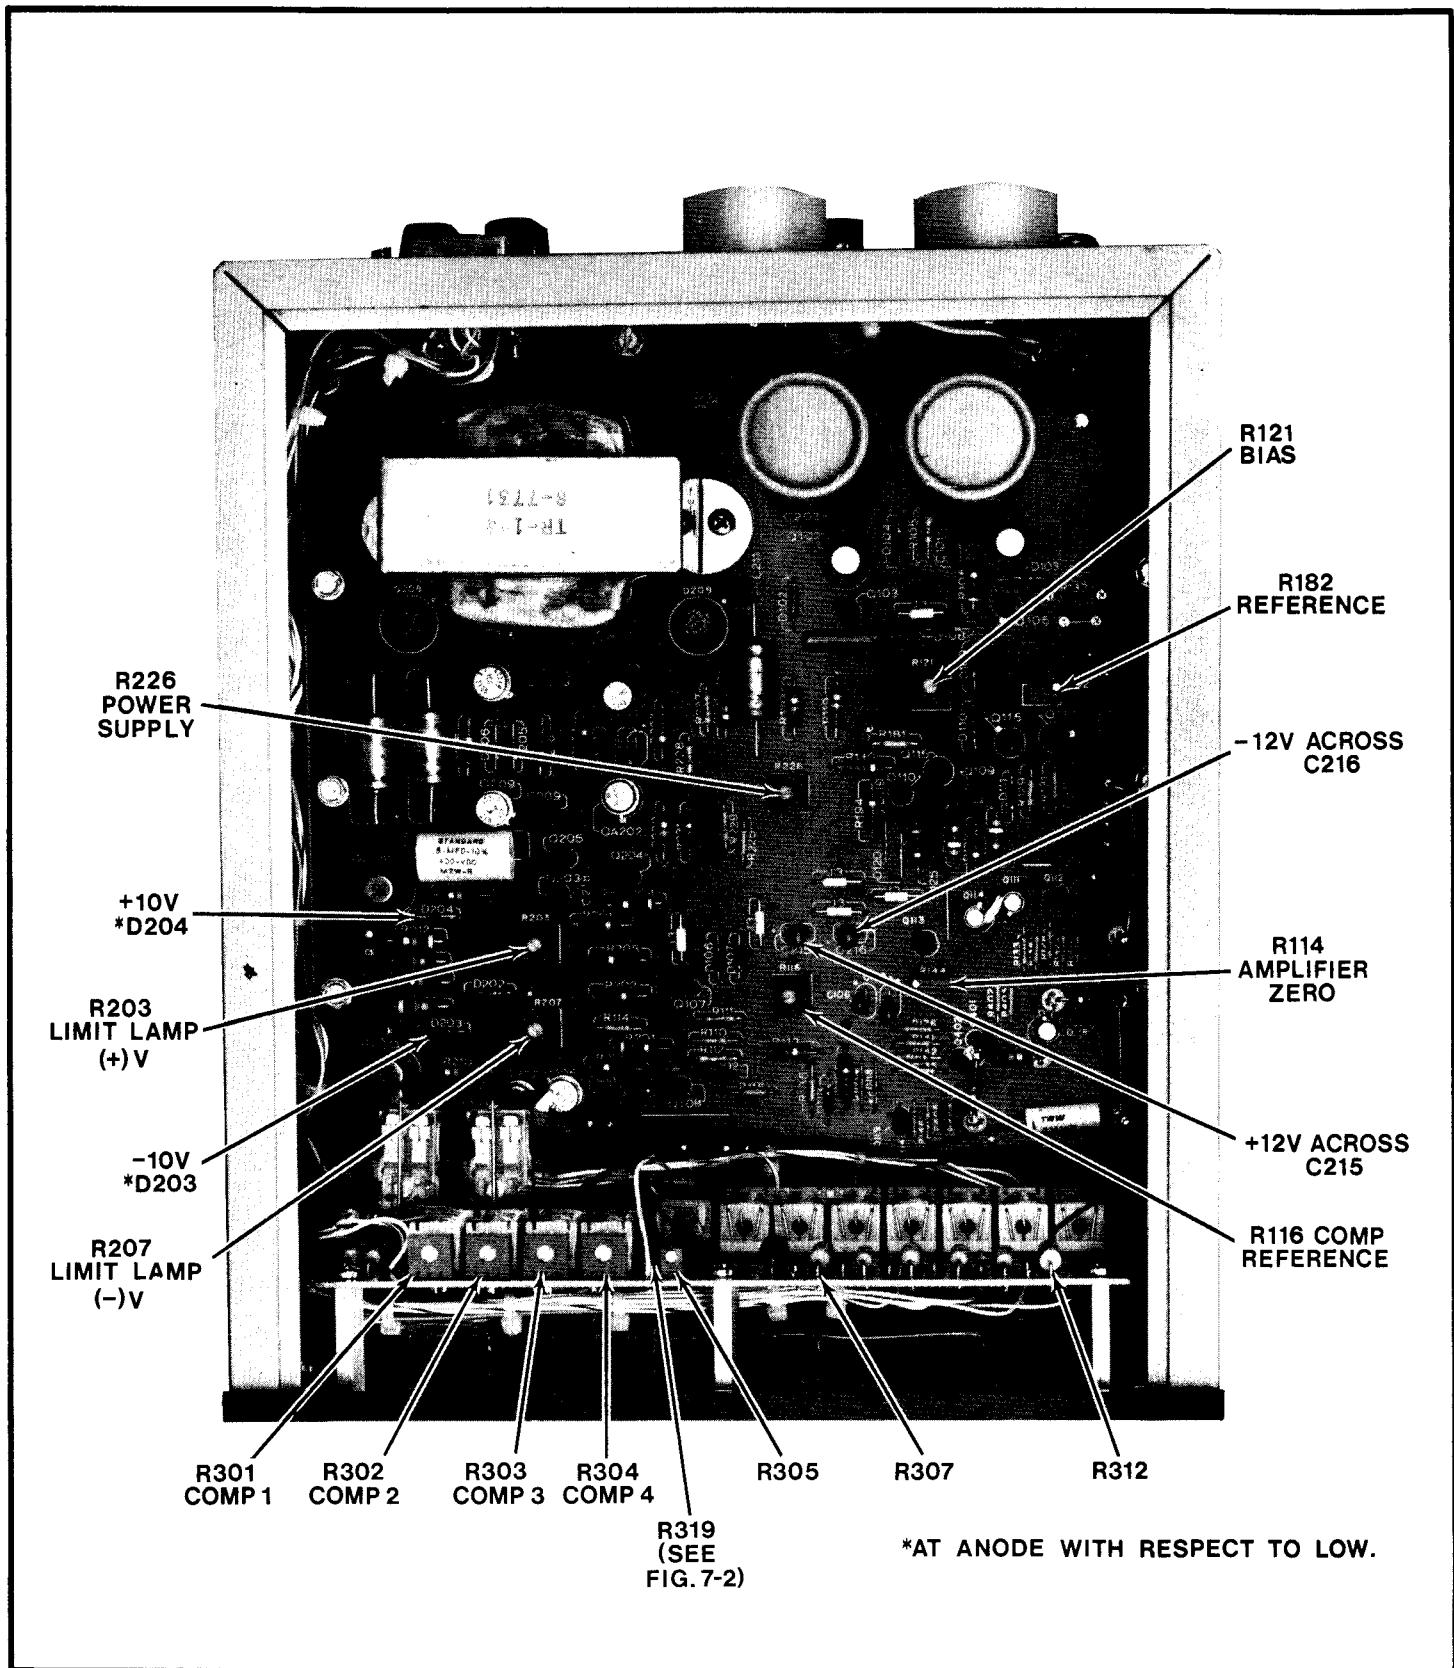

FIGURE 6-1. Chassis - Top View.
a. Troubleshooting Guide. Refer to Figure 6-1 for voltages and test points.
6-3. CALIBRATION PROCEDURE. Refer to Table 6-1 for step-by-step procedures for calibrating this instrument. Refer to Figure 6-1 for testpoint and adjustment locations.